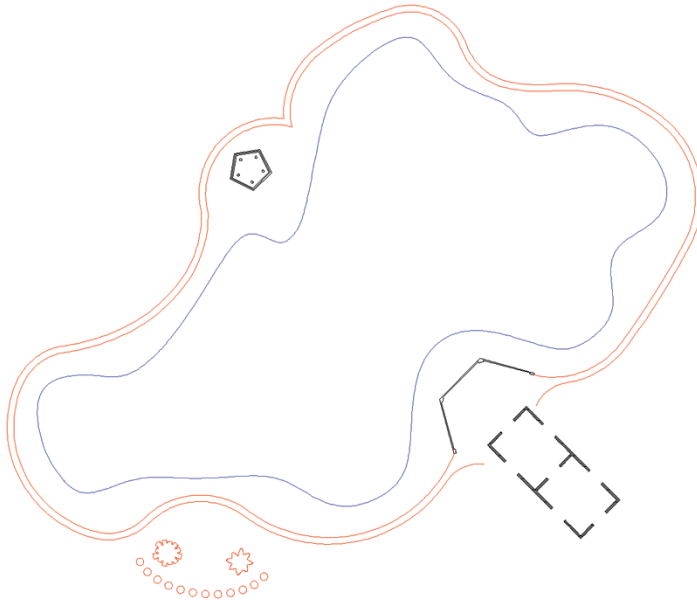

FIGURE 5.21 Completed landscape plan
4. Continue blending all the adjacent curves in the tree. Delete the point object at the center. Figure 5.21 shows the completed drawing.